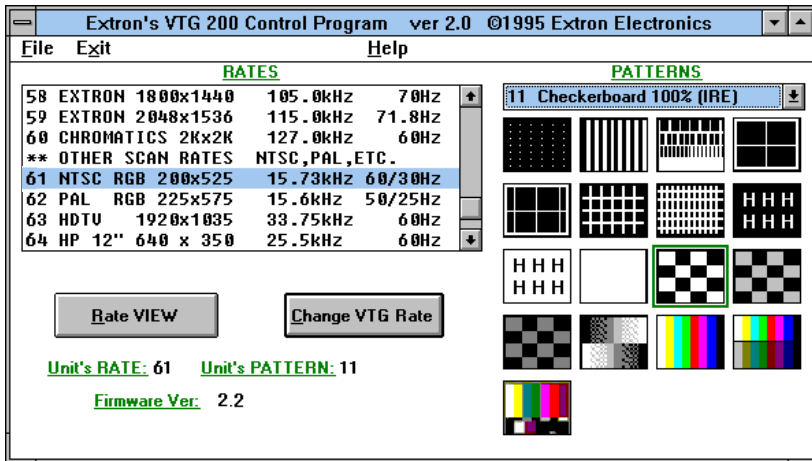

Figure 5-7A ↑
4. The Extron VTG 200 Control Program window displays available scan rates and test patterns, and the program awaits user action (see figure 5-7A).